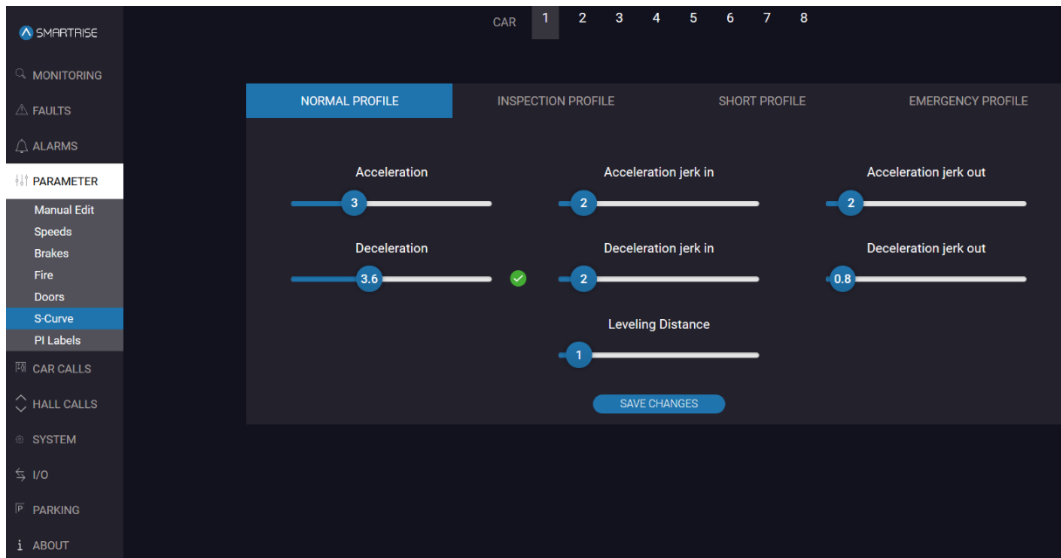

Figure 18: PARAMETER Screen – S-Curve – NORMAL PROFILE – Save
3. A green checkmark displays. See Figure 18.